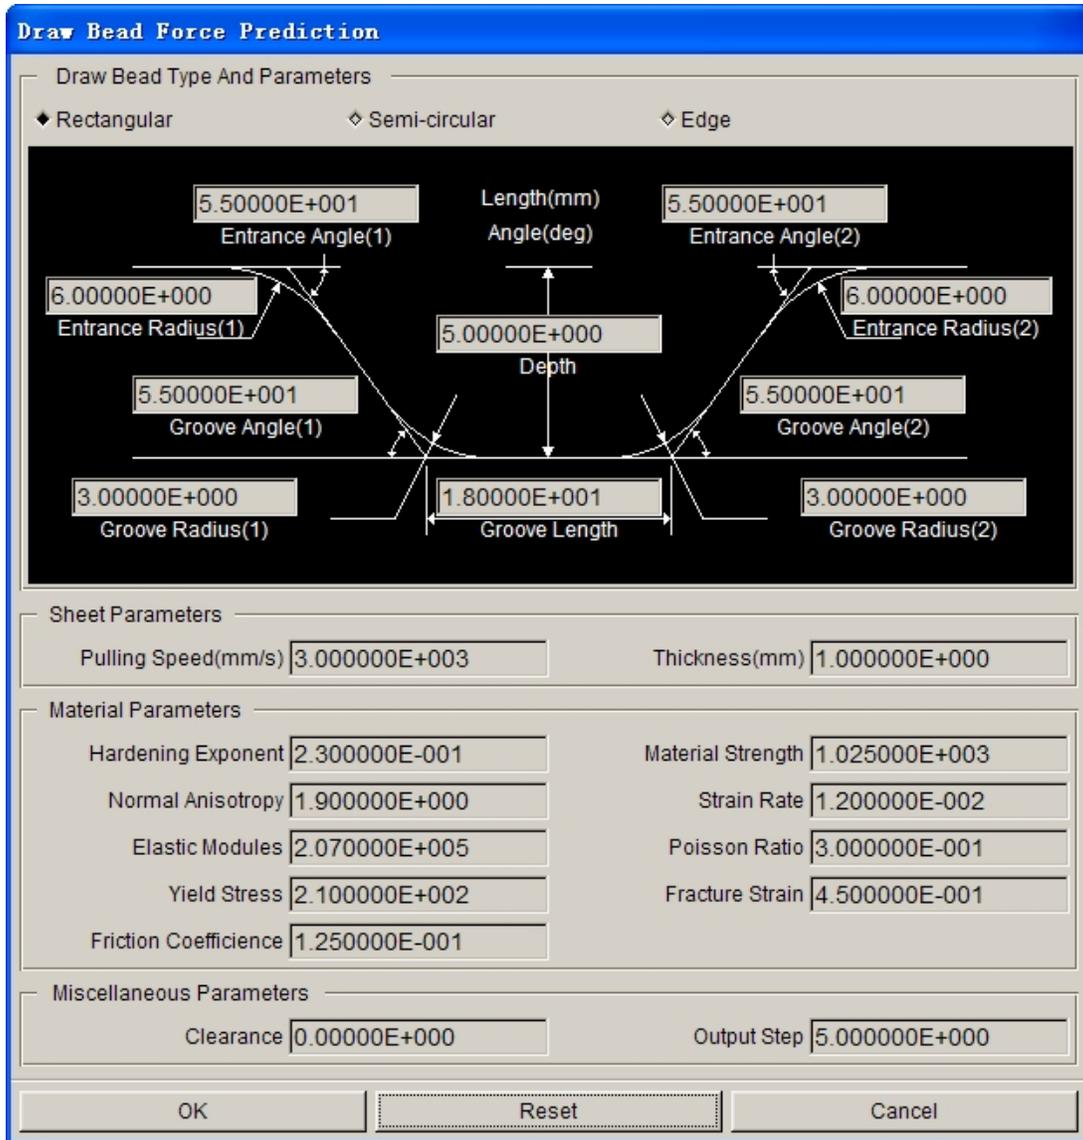

Figure 10.4.8 Drawbead Force Prediction dialog box
**AUTO** –This function enables the user to create bending curve according to the drawbead section figure and the material of the blank as illustrated in Figure 10.4.8. The user can input all the parameters in the DRAWBEAD FORCE PREDICTION dialog box, following by clicking on the OK button to exit the dialog box. The defined curve ID is specified as the BENDING curve ID for the property.